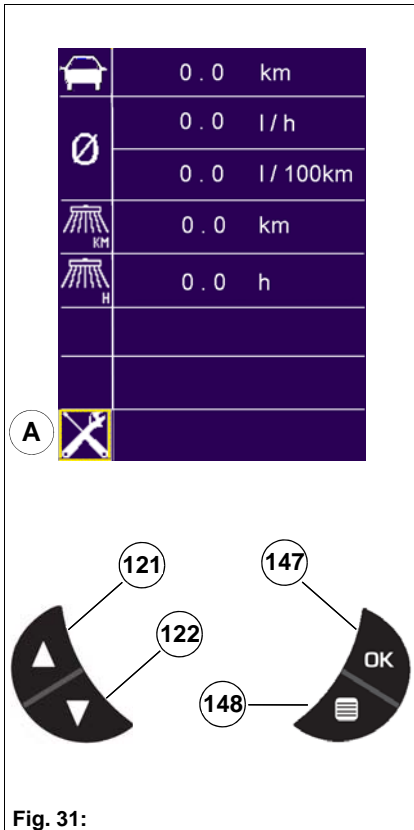

Fig. 31:
2. Use the SCROLL UP button **Fig. 31-121** or the SCROLL DOWN button **Fig. 31-122** to mark the icon of the options menu **Fig. 31-A**.